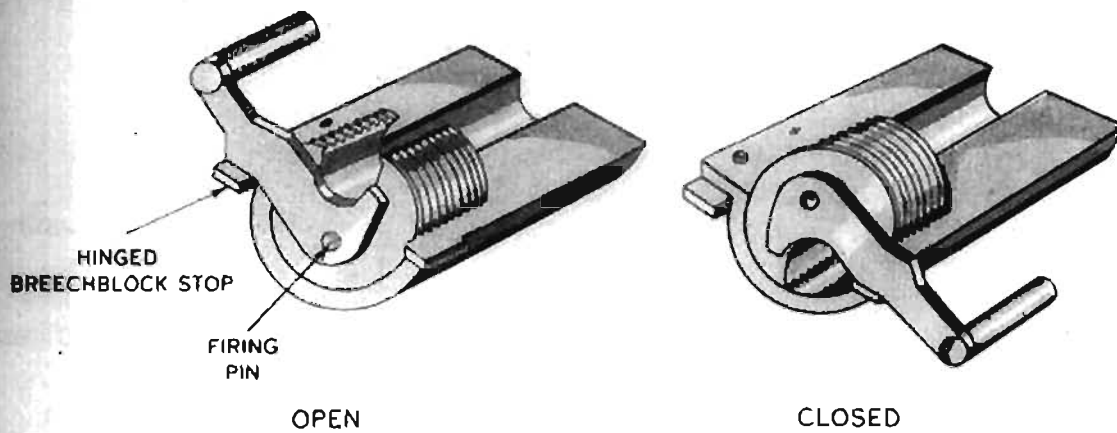

Figure 3
- c. Breechblock rotates 156 degrees from open to closed position (fig. 3).